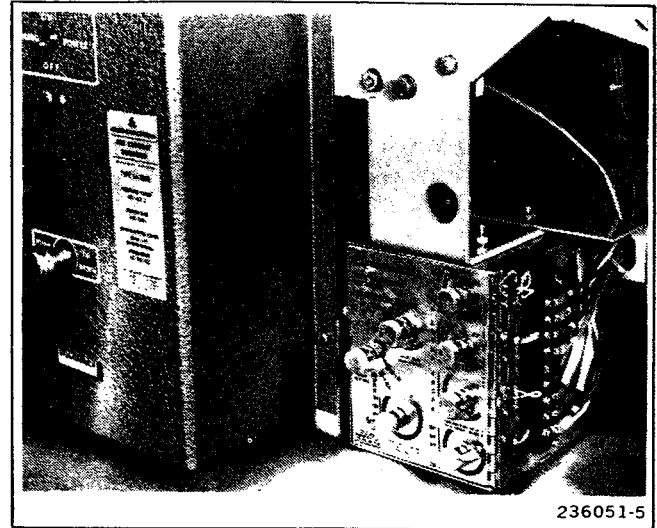
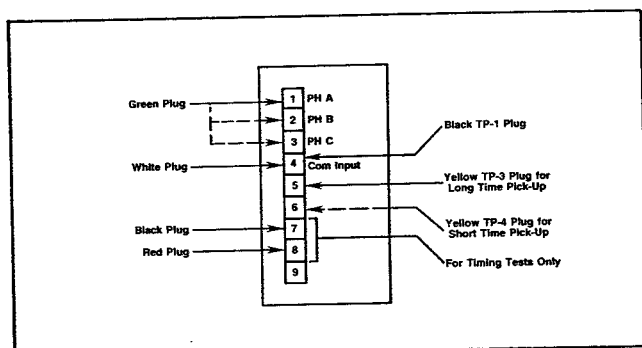
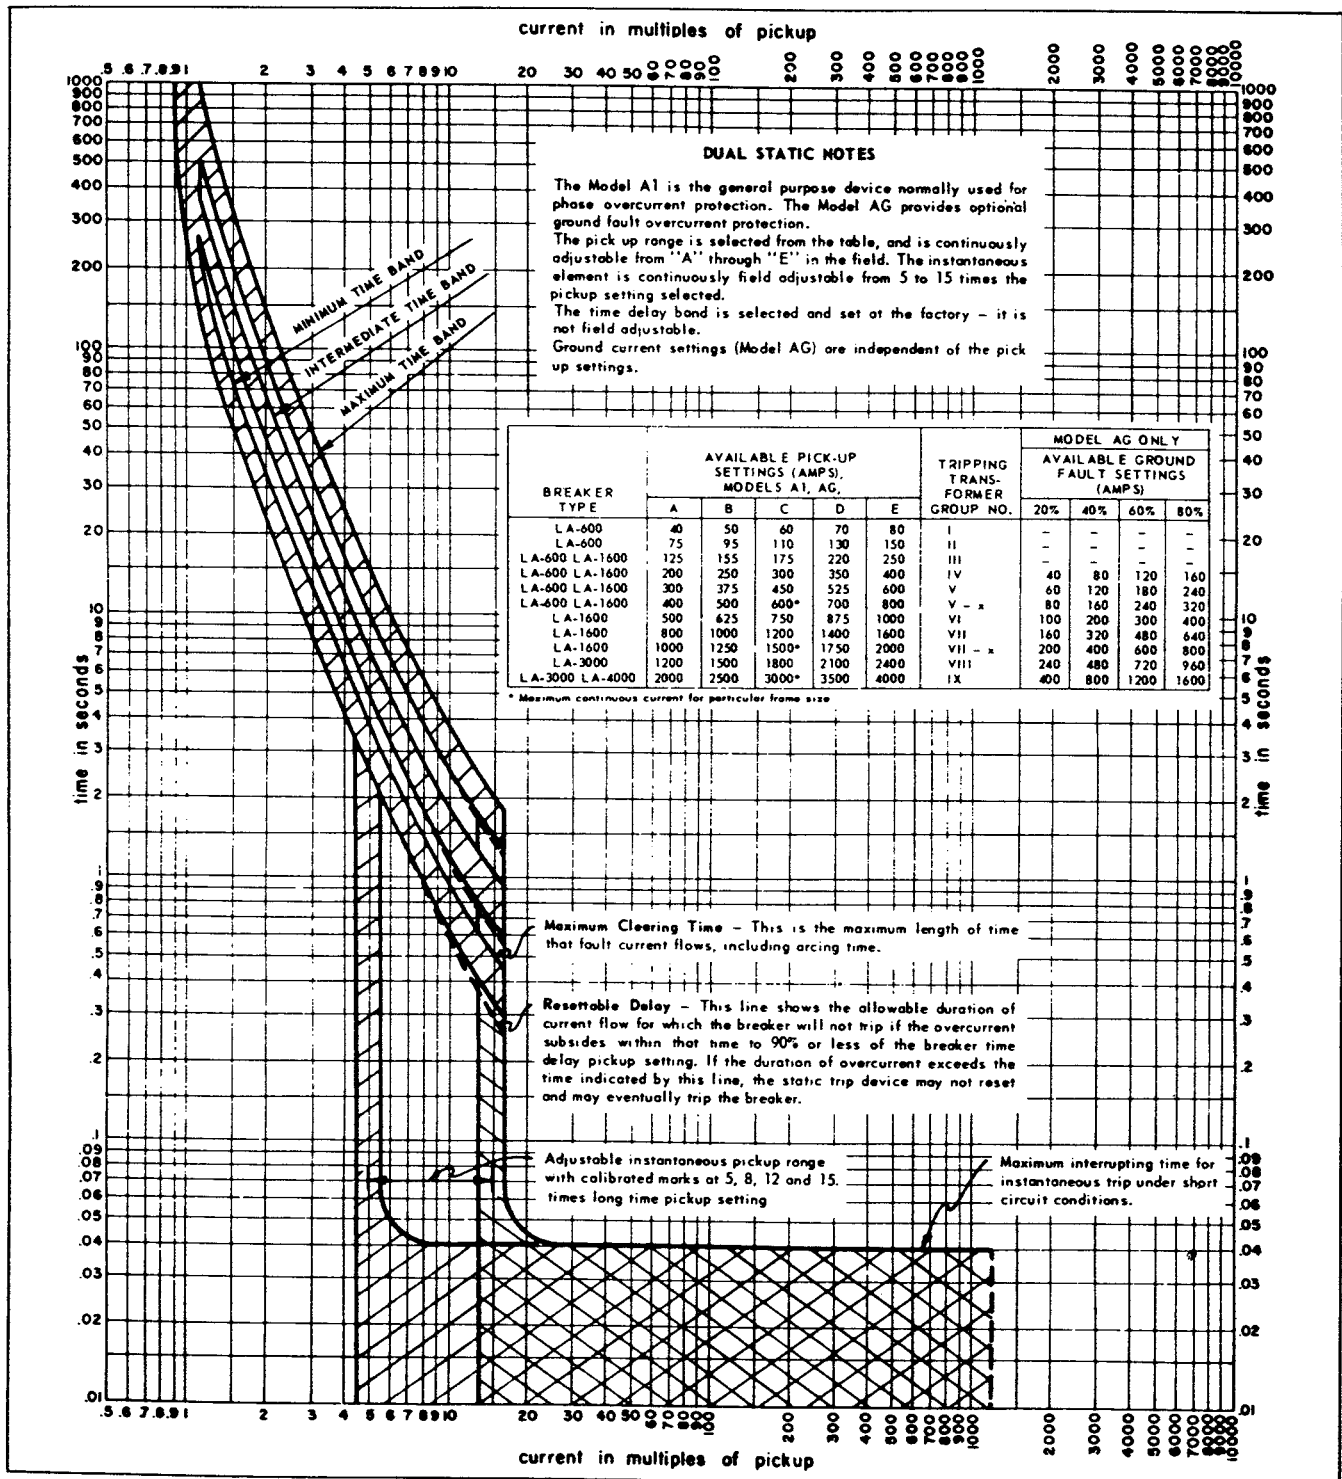

Figure 8. First Generation Static Trip Terminal Block
Figure 9. Test Connections—Models A, A1, A2, C3, D, D1 and D2
Figure 13. Time Current Curves—Models A, A1, A2, AG and AG1
The connections to the first generation trip devices terminate on an 8 or 9 point terminal block mounted on the side of the device. See **Figure 8**. To allow using the test set plugs to connect to this terminal block, alligator clips are furnished with the test set to clip onto the terminal block screws. Four of the clips accept the four banana plugs and three accept the pin plugs for the pick-up lights. The bottom line of **Table 3** gives the calibrated settings for secondary amperes for the first generation trip devices and on the same page, available models are listed and described. **Figures 13, 14, 15, 16 and 17** are the time current characteristic curves for the various models. Connections from the test set are different for different models and are shown in **Figures 9 through 12**.
labeled "Instantaneous Trip Setting" (4). The Short Time Pick-Up is labeled "Transfer to Short Time (5). There are no test jacks provided on the front of the device. Connections for trigger indication are made to points on the terminal block as shown in **Figures 9 through 12**. (6) On STATIC TRIP II the knob reference dots (knob counterclockwise against stop) are black and the calibration dots are red. On first generation trip devices the reference dots are red and the calibration dots are black on some models and white on others.
Keeping the above differences in mind and making careful reference to the appropriate connection diagram in **Figure 9 through 12**, the test instructions in "Testing Static Trip on the Breaker" (omitting the connection instructions in each case), can be used for testing first generation trip devices also. Compare the test results with **Table 3** and **Figures 13, 14, 15, 16** and **17** as applicable.